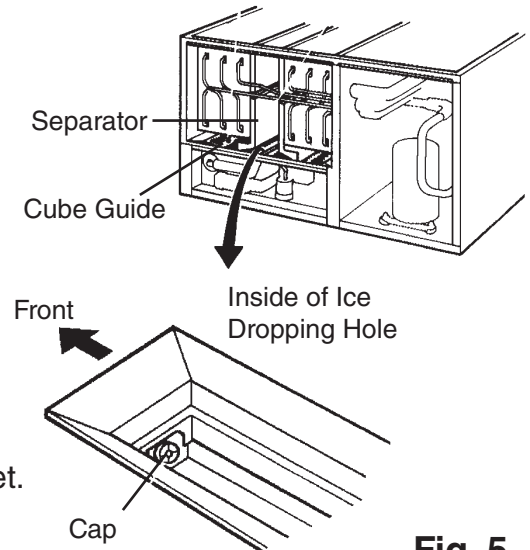

Fig. 5
- 3) Drain the water tank by removing the cap located on the front bottom part of the ice dropping hole. See Fig. 5.